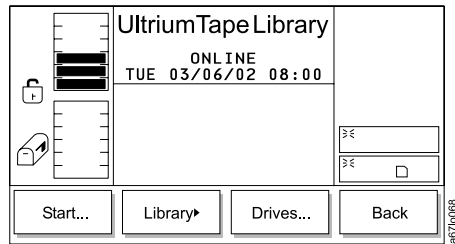

Figure 263. Service Menu
2. Press the button below the **Service** softkey. The Service Menu displays (see Figure 263 on page 193).